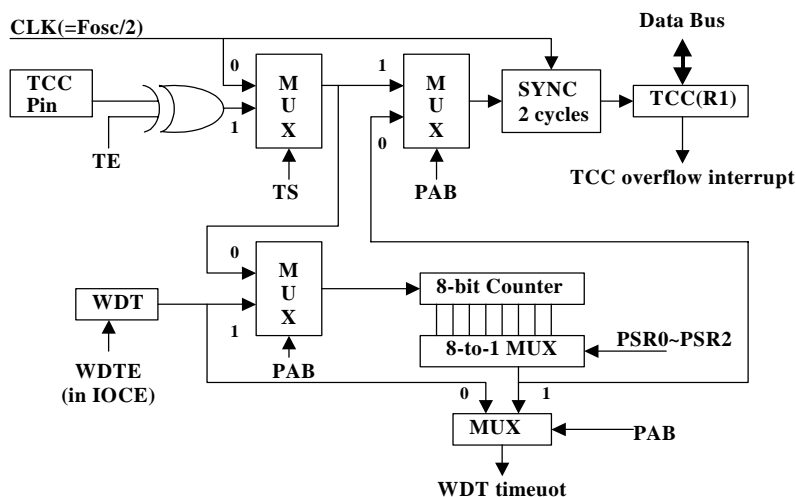

Fig. 6 TCC and WDT Block Diagram
An 8-bit counter is available as prescaler for the TCC or WDT. The prescaler is available for either the TCC or WDT only at any given time, and the PAB bit of the CONT register is used to determine the prescaler assignment. The PSR0~PSR2 bits determine the ratio. The prescaler is cleared each time the instruction is written to TCC under TCC mode. The WDT and prescaler, when assigned to WDT mode, are cleared by the “WDTC” or “SLEP” instructions. Fig. 6 depicts the circuit diagram of TCC/WDT.
- R1 (TCC) is an 8-bit timer/counter. The clock source of TCC can be internal or external clock input (edge selectable from TCC pin). If TCC signal source is from internal clock, TCC will increase by 1 at every instruction cycle (without prescaler). Referring to Fig. 6, CLK=Fosc/2 or CLK=Fosc/4 selection is determined by the CODE Option bit CLK status. CLK=Fosc/2 is used if CLK bit is "0", and CLK=Fosc/4 is used if CLK bit is "1". If TCC signal source comes from external clock input, TCC is increased by 1 at every falling edge or rising edge of TCC pin.